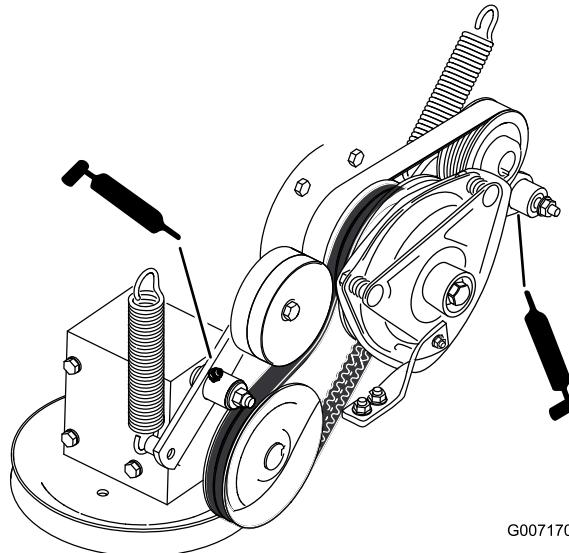

Figure 37
5. Grease the PTO drive belt idler arm (Figure 37).
6. Grease the pump belt idler arm (Figure 37).